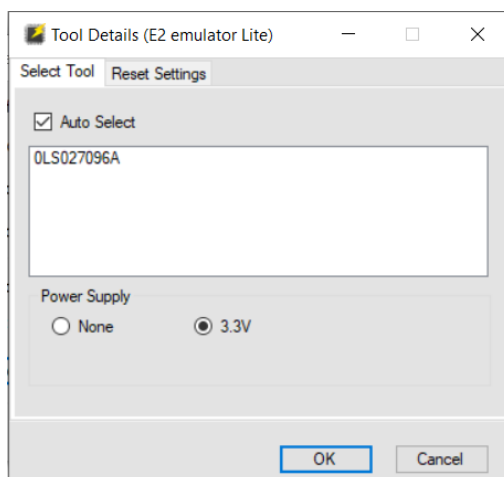

Figure 6. Power Supply Connection Window
8. Click *Tool Details* and select "3.3V" Power Supply, then click OK. See Figure 6.